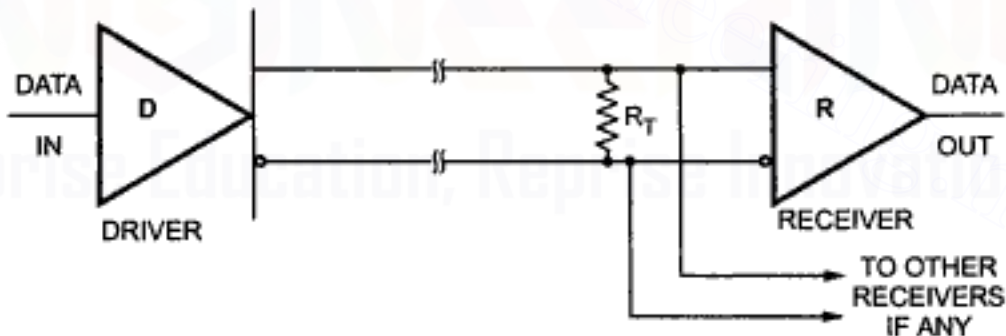

Fig. 14.10 RS-422-A interface circuit
A basic RS-422-A circuit has a data line driver, differential transmission line and loads, where a load may consist of one or more receivers (R) and the line termination resistor (R_T), as shown in Fig. 14.10.